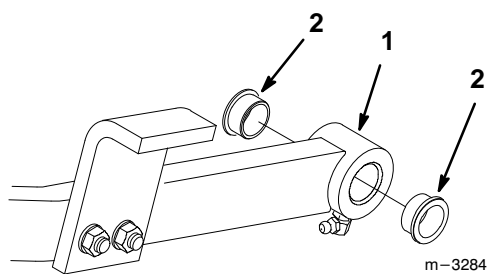

Figure 37
4. Insert a pin punch into the push arm and carefully drive out the bushings (Fig. 37). Clean the inside of the push arm.
5. Use a hammer and flat plate to carefully drive new bushings into the end of push arm (Fig. 37).